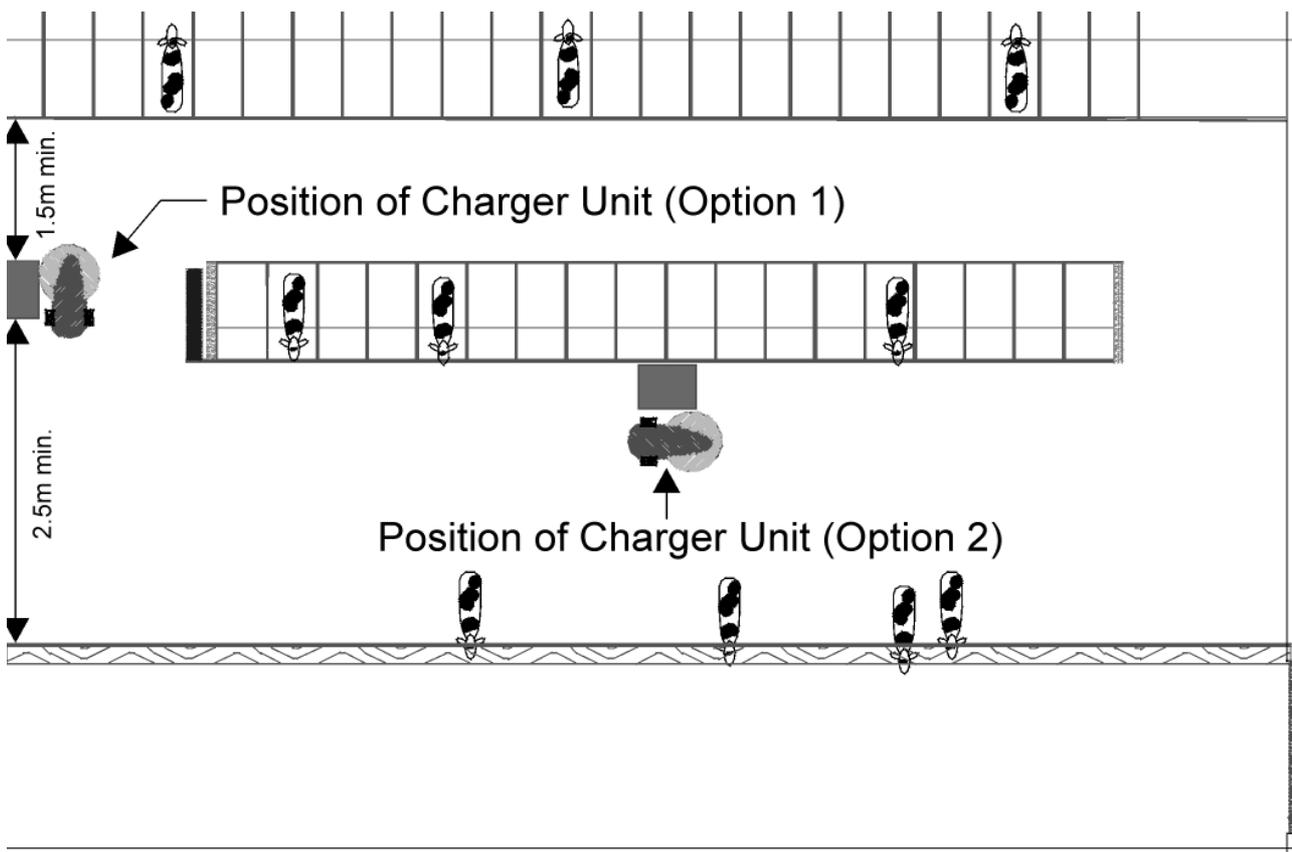

Figure 2 2 Positioning of the charger unit
- The precise placement of the charger unit (figure 2 2) within the cowshed is extremely important. Find a central (quiet) spot in the shed where the charger unit can be installed.
- 1) Fit the electrodes (5, figure 2 1) to the lower support (4) with M8 bolts (4x).
- 2) Fix the floor column (1) to the shed floor with M10 bolts (8x - not supplied). Make sure that the whole unit is level.